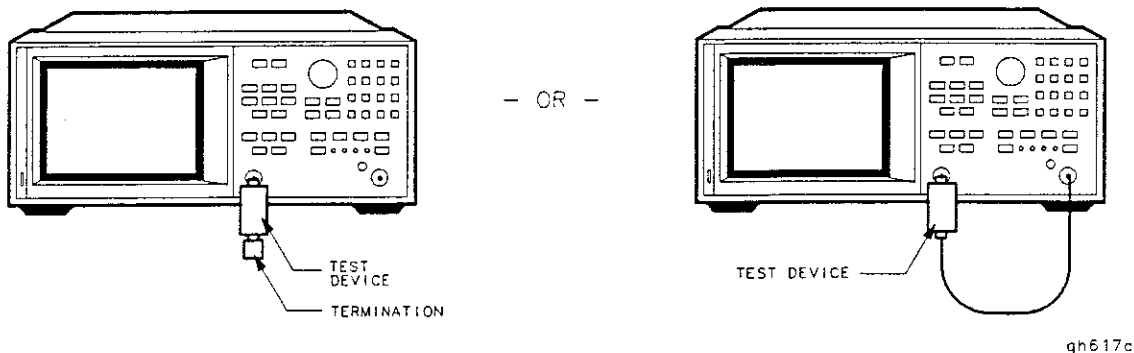

Figure 2-7. Connections for Reflection Measurements
1. Connect your test device directly to the reflection port, as shown in Figure 2-7.